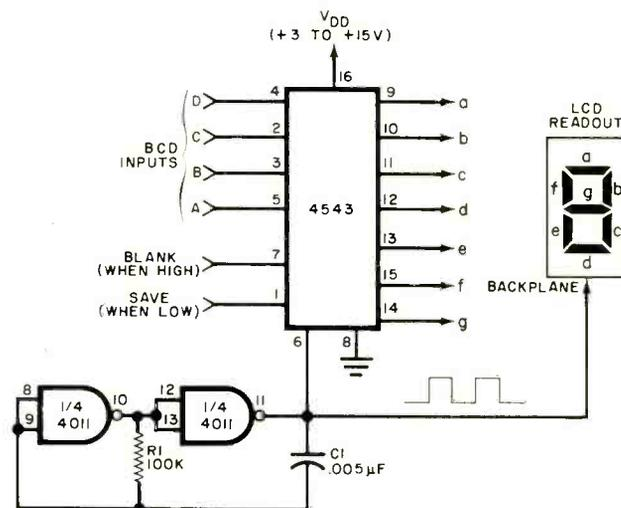

Fig. 2. How to use the 4543 CMOS LCD 7-segment latch/decoder/driver.
**An LCD Driver Chip.** Many different clock and watch chips designed specifically for driving LCDs are now available. But what if you want to interface a circuit of your own design with an LCD? One approach is shown in Fig. 2.
Note how two NAND gates are used in Fig 2 to make a simple square-wave generator for the 4543. Be sure to tie unused inputs to  $V_{DD}$  or ground. For more information about the 4543, see the data sheets published by Motorola, National and other CMOS companies. The National data sheet for its version of the 4543 (CD4543BM/CD4543BC) includes the circuit for a  $3\frac{1}{2}$ -digit DVM with an LCD readout.
**Joystick-Controlled Tone and Amplitude.** Figure 2 shows an experimental joystick tone- and amplitude-controlled amplifier. In operation,  $R1$  controls the amplitude of the signal while  $C1$  and  $R2$  serve as a simple, but adjustable, tone-control filter.